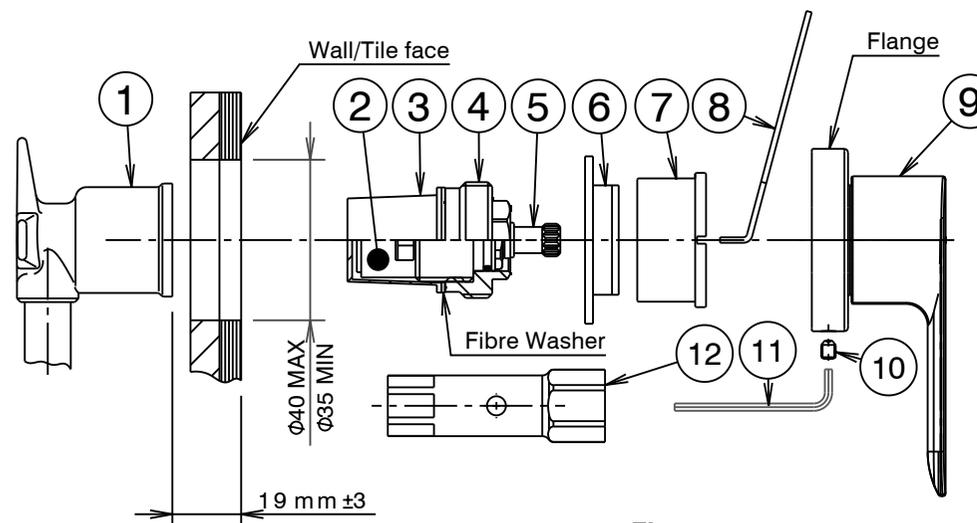

Fig. 1
- \* In-wall depth 19mm±3 (Fig.1).
- \* Hole size 40mm dia MAX to 35mm dia MIN (Fig.1)
- 1) Check that the face of the recess tap body (1) is 19mm±3 from wall/tile face, as shown in Fig.1.
- 2) Check seats in recess tap bodies (1) are in good condition and free of foreign materials. Reseat if required.
- 3) To install ceramic disc cartridges (2), first identify cartridge spindle rotation by seal colour.